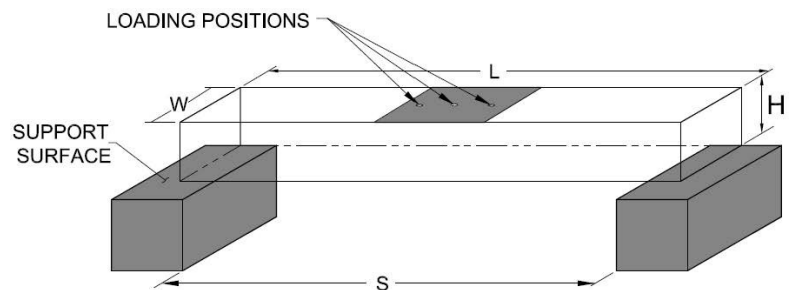

Figure 1
- b. The bridge must span a gap (**S**) of 300-mm (**hint: bridge must be longer than 300-mm**), be no longer (**L**) than 400-mm, be no shorter (**H**) than 50-mm and no taller than 80-mm above the support surface, and be no wider (**W**) than 60-mm and not less than 30-mm. No part of the bridge may extend below the support surface (see Figure 1).
- c. The bridge must be constructed to include a horizontal loading plane that provides support for three possible loading positions along the longitudinal axis of the bridge. The three loading positions are located at the center of the bridge, and 50-mm to either side of the center of the bridge. (see Figure 1). **NOTE: Load will be applied at the center of one loading position as described in section 4b.**
- d. The loading plane shall be horizontal and shall lie on the physical top of the bridge between 50-mm and 80-mm above the support surfaces (**Hint: top of the bridge must be taller than 50-mm but not exceed 80-mm in total height**) (see Figure 1).